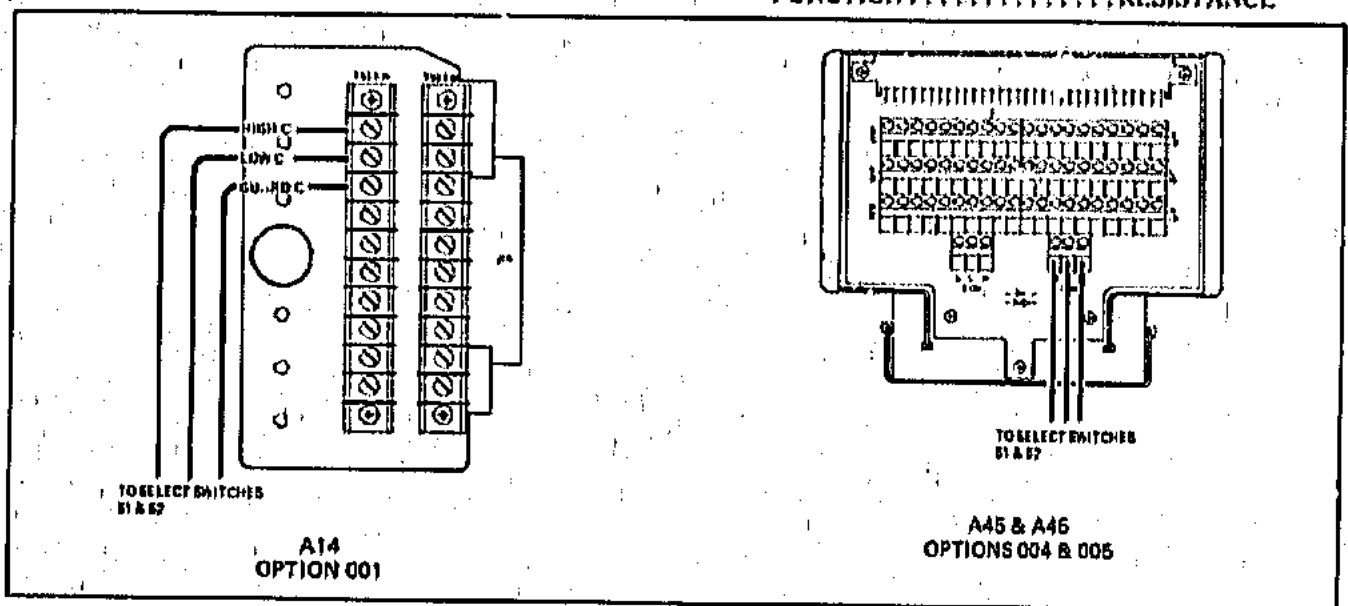

Figure 4-5. Channel Isolation Test Wiring Diagram.
b. Wire the Option Connector as shown in Figure 4-5.